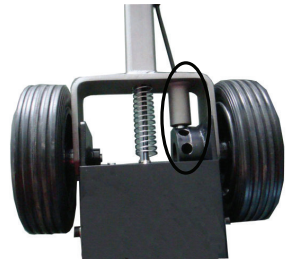

Fig. 06
- Observe the correct positioning (pin of the lever in the hole of the lever support), Fig.06.